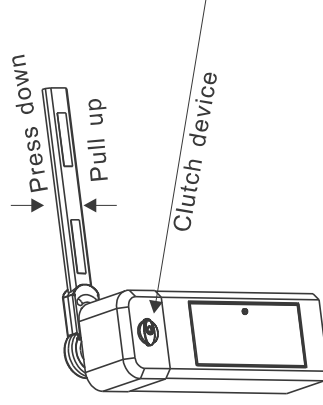

Fig. 4
7. 1. 3) Unlock the clutch device with the clutch key clockwise. Move the boom to the horizontal and vertical position manually to make sure there is no obstruction. Then turn on the power (refer to the Fig. 4)
(G) The method to lock up unlock the clutch device. The clutch can not be unlocked. Insert the clutch key and rotate it clockwise to unlock it, and the anticlockwise to lock it. If the clutch device could not be locked up or unlocked easily, please pull up or pull down the boom by hand lightly. (Refer to Fig. 4)